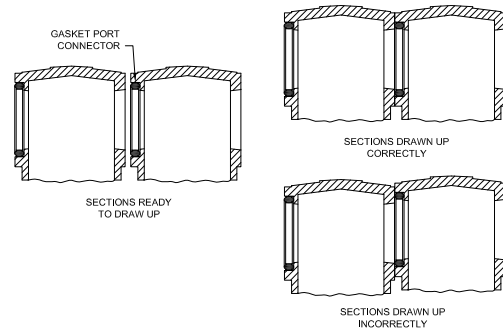

Figure 2.4: Drawing Up Sections
11. Select the correct intermediate section (refer to Table 2.2), and slide it into place against the front section. Ensure that the sections are plumb and the port connectors are properly seated in the port recesses as indicated in Figure 2.4.